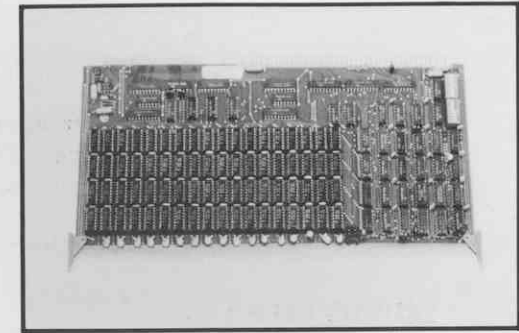

Figure 10 Chrislin Multibus Memory Board
Chrislin boards are normally located in slot 2 and/or slot 6 of the card cage. Figure 10 shows a Chrislin board.
- 1.15** Compare the board you've removed from slot 2 to Figure 10. If it's a Chrislin board, set it aside for return to Sun after the upgrade. It will NOT be used in the upgraded workstation.
- 1.16** Remove the board, if any, from slot 6 and compare it to Figure 10. If it's a Chrislin board, set it aside for return to Sun after the upgrade. Chrislin boards will NOT be used in the upgraded workstation.